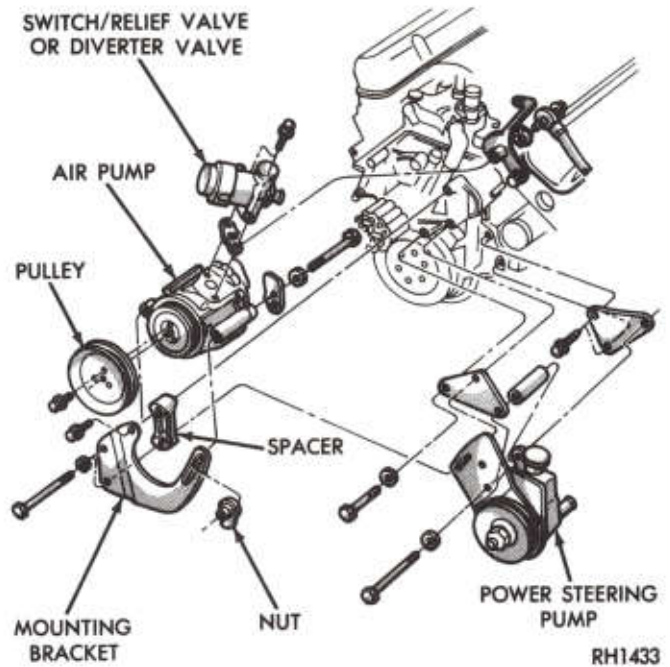

Fig. 4—Air Pump Mounting 3.9L, 5.2L, and 5.9L
3.9L, 5.2L and 5.9L Engines (Figs. 4, 5 and 6)